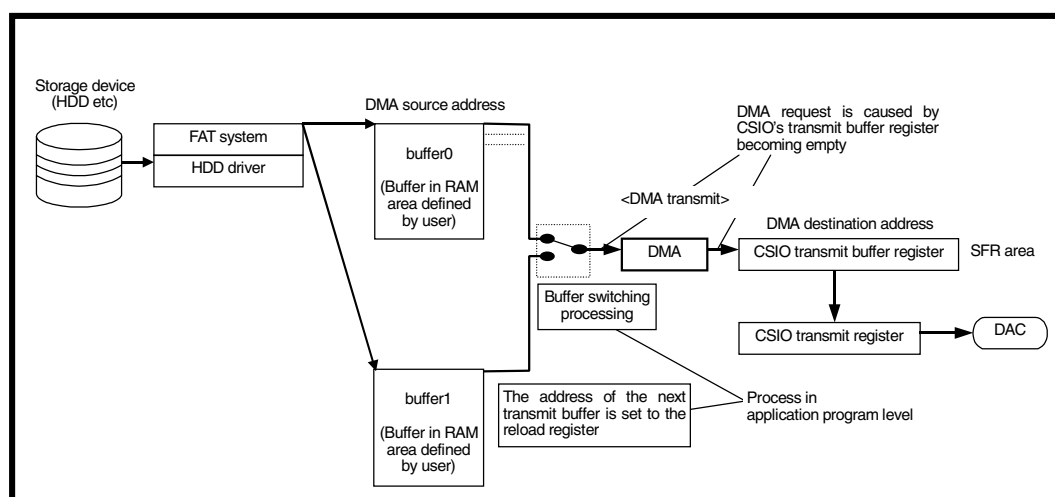

Figure 4 Example of data flow system
(1) As shown in Figure 4, digital audio data read from the storage device are stored in the buffer (RAM). The data which were stored in the buffer are transmitted to the CSIO transmit buffer register by DMAC.
(2) DMA source, destination address and DMA request factor are set up as follows.